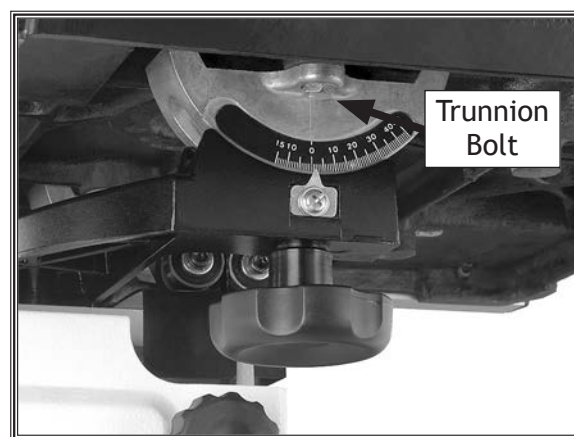

Figure 57. Location of trunnion bolt (1 of 6).
4. Loosen the six trunnion bolts that secure the trunnions to the table (see **Figure 57**).